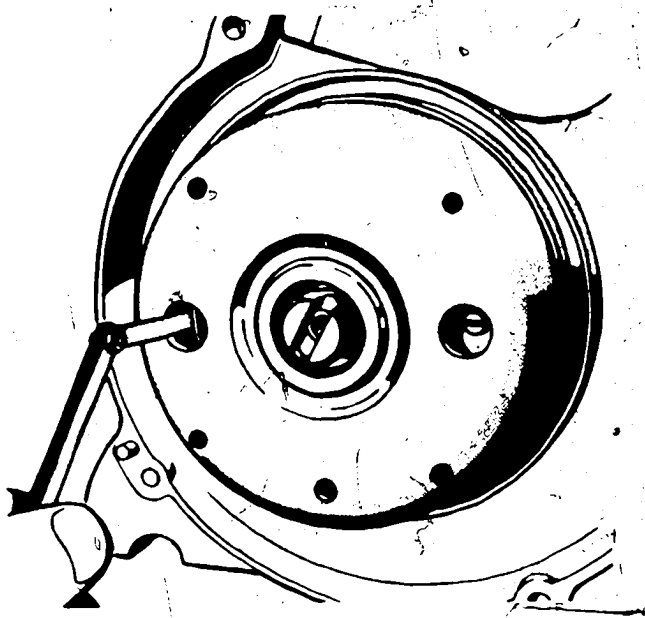

Fig. 5
Fit new charging armature. Adjust air gap to 0.25 to 0.35 mm (Fig. 5).
to 0.35 mm (Fig. 5).
0.25 to 0.35 mm (Fig. 5).
y/wheel. Set air gap to 0.25 to 0.35 mm (Fig. 5).
ning torque as given by engine manufacturer). Set air gap to 0.25 to 0.35 mm (Fig. 5).